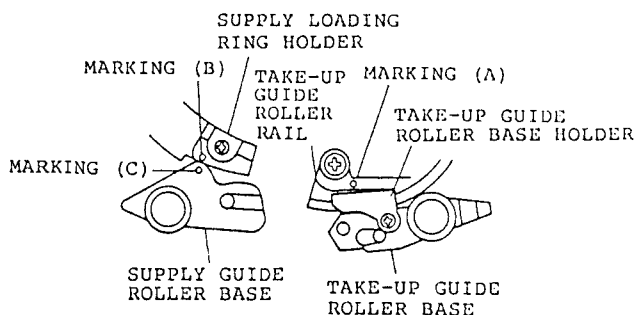

Fig. 3-6
3. CONFIRMATION OF UNLOADING POSITION (Fig. 3-6)
- 1) After performing loading and unloading several times, set the unit to the unloading (stop) state and check that marking (A) on the take-up guide roller rail and the center of take-up guide roller base holder are approximately aligned, and marking (B) on the supply loading ring holder and marking (C) on the supply guide roller base are also aligned. (See Fig. 3-6)